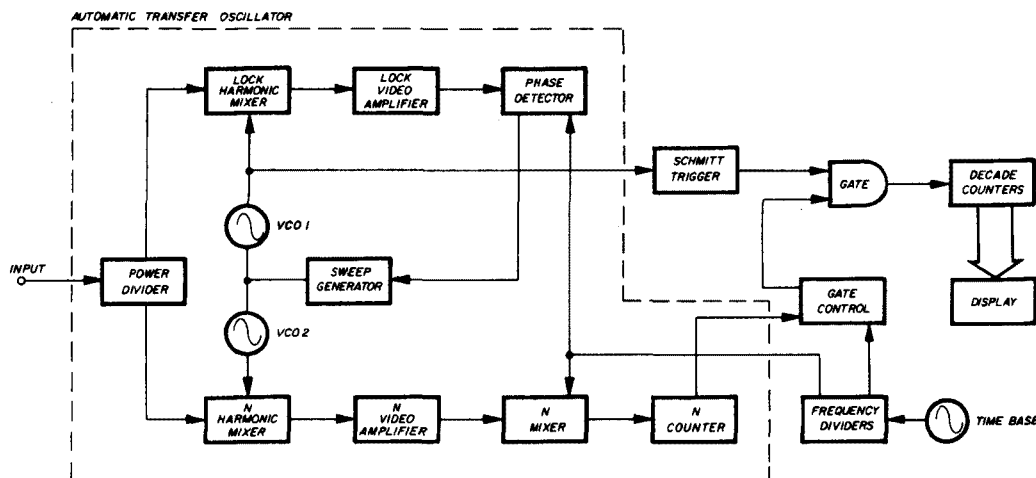

fig. 7. Simplified block diagram of an automatic transfer-oscillator frequency counter.
The modern transfer-oscillator frequency counter performs essentially the same procedures, but does so automatically. Fig. 7 is a much simplified block diagram of such a counter. The automatic transfer oscillator consists of two channels, a lock channel and an N-computing channel. The input signal is split in a power divider and applied to one input of the lock harmonic mixer and to one input of the N harmonic mixer. A low-frequency, voltage-controlled oscillator (VCO 1) is swept from its minimum to maximum frequency, typically 100 to 200 MHz, until an output is obtained from the lock harmonic mixer which will pass through the lock video amplifier. The
(Automatic Computing Transfer Oscillator). A simplified block diagram of the ACTO circuit is shown in fig. 10. The similarity to fig. 7 is apparent, with the input signal split and applied to the lock and N channels. However, only a single VCO is used for both frequency and harmonic (N) determination.